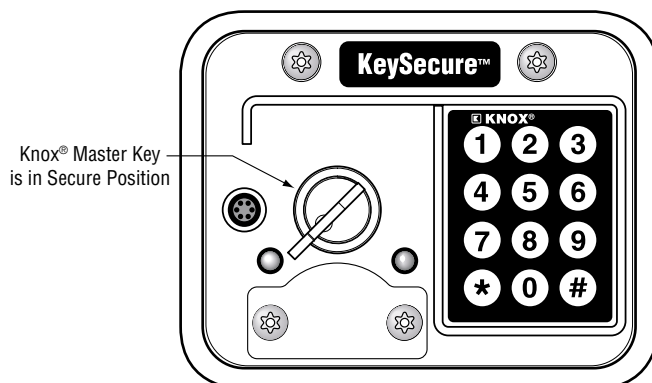

Figure 11
- Step 5** Once the Knox® Master Key is in the unsecured position (see Figure 11), the left light changes from blinking red to a solid red. The illuminated keypad will stop blinking and return to its previous state.